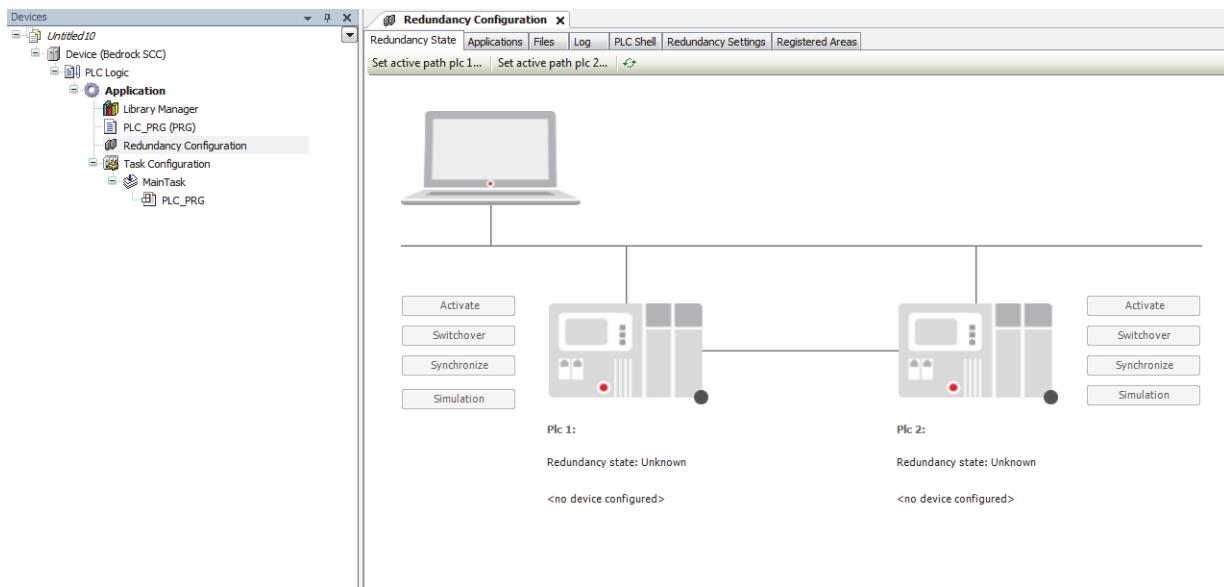
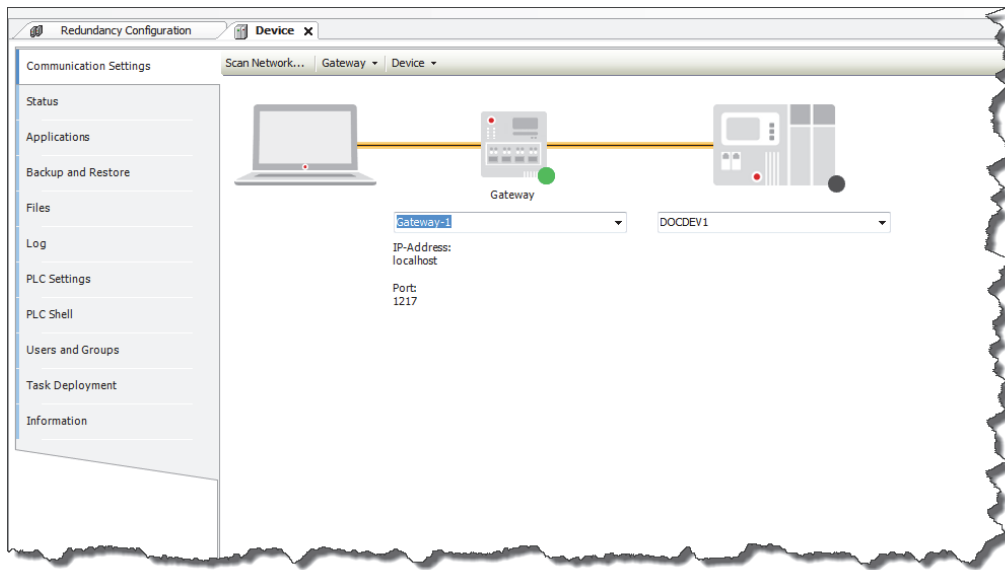

Figure 5-4 Redundancy Configuration Tab
Figure 5-5 Device Tab
4. Verify that the Redundancy Configuration tab is displayed (Figure 5-4). Note that there is now a Redundancy Configuration node in the Devices pane. There is also a Redundancy State tab with a figure that depicts a redundant pair of Controllers. Each Controller (PLC) has its own set of buttons for managing the redundant pair.
5. On the Redundancy State tab (Figure 5-4), select the button labeled “Set active path plc 1...” to display the Device tab (Figure 5-5).
13. Enter the Redundancy Task Name. The Redundancy Task Name must be the same as the task name under the Task Configuration node in the Devices pane (e.g., “MainTask” in Figure 5-4).